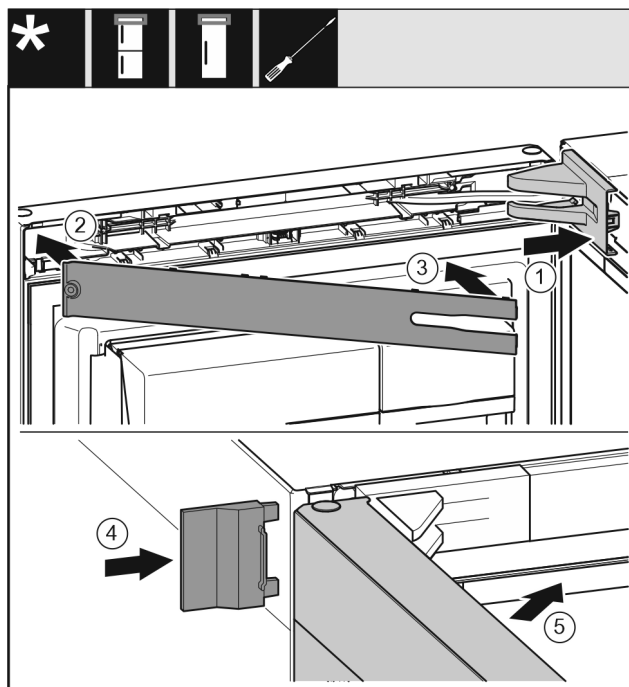

Fig. 25
- ▶ Position the bearing bracket cover and engage it. If necessary push it apart carefully. *Fig. 25 (1)*
- ▶ Place on the panel. *Fig. 25 (2)*
- ▶ Swing in the panel and latch it into place. *Fig. 25 (3)*
- ▶ Slide on the outer cover. *Fig. 25 (4)*
- ▶ Close the upper door. *Fig. 25 (5)*